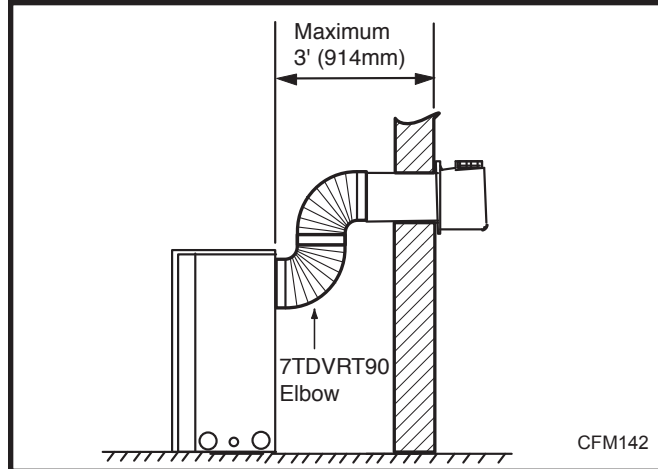
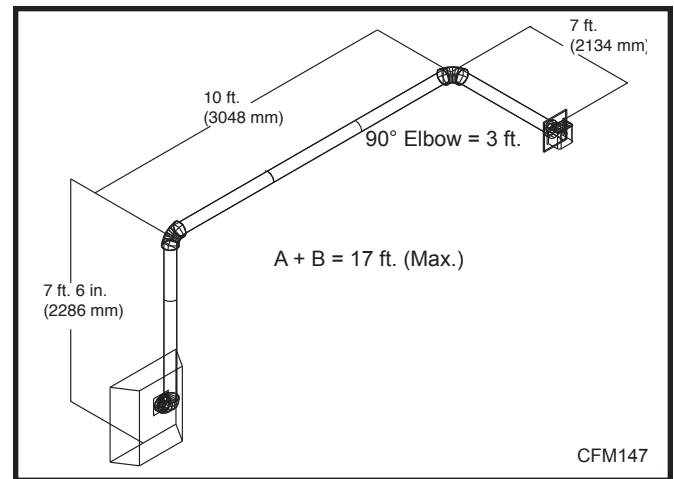

Fig. 22 Maximum horizontal vent run.
Fig. 23 Maximum vent run with elbows.
- If a 90° elbow is used in the horizontal vent run (level height maintained) the maximum horizontal vent length is reduced by 36" (914 mm). (Fig. 22) This does not apply if the 90° elbows are used to increase or redirect a vertical rise. (Fig. 23)
Example: According to the chart the maximum horizontal vent length in a system with a 7.5' (2.3 m) vertical rise is 20' (6 m) and if a 90° elbow is required in the horizontal vent it must be reduced to 17' (5.2 m). In Figure 23 Dimension A plus B must not be greater than 17' (5.2 m).